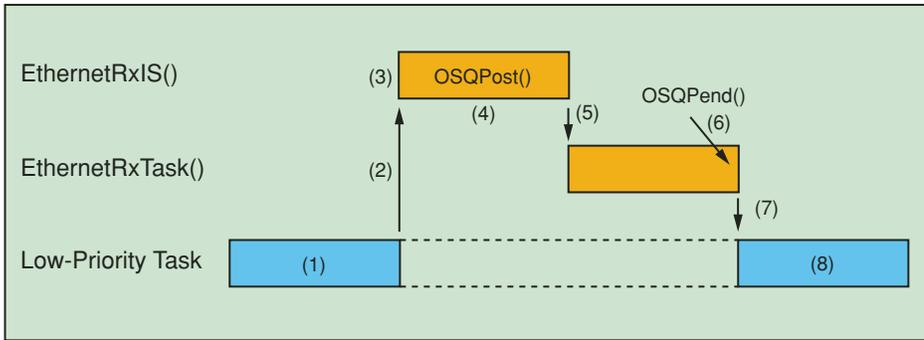

Figure 1 – Execution profile of an ISR and  $\mu\text{C}/\text{OS-II}$
The execution profile for these two functions is shown in Figure 1.
$\mu\text{C}/\text{OS-II}$  then locates the next most important task that's ready to run (the "Low-Priority Task" in Figure 1) and switches to that task by loading the MicroBlaze registers with the context saved by the ISR (7). This is called a *context switch*.  $\mu\text{C}/\text{OS-II}$  takes less than 1 microsecond at 150 MHz on the MicroBlaze processor to complete this process. The interrupted task is resumed exactly as if it was never interrupted (8).
Because the platform is completely programmable, a design function can be implemented in either hardware (programmable logic) or software (PPC405) depending on the real-time design constraints and trade-offs between performance and flexibility, as shown in Figure 1.